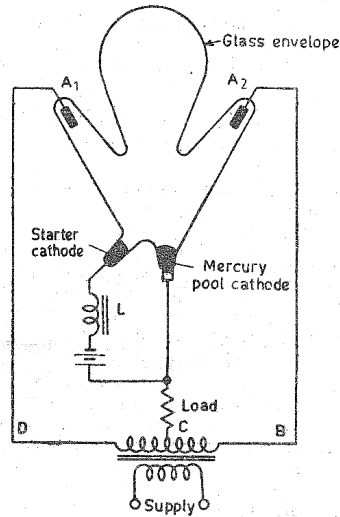

Fig. 41.1
**Marks (5)**
**Marks (9)**
**Construction:** It is a gas-filled tube employing a pool of mercury as a cathode with a side-arm glass bulb as shown in fig. 41.1. There are two main anodes  $A_1$  and  $A_2$ , constructed from specially pure graphite in the case of small ratings and iron in larger ones, sealed into glass side arms projecting from the main bulb, above the liquid mercury cathode.